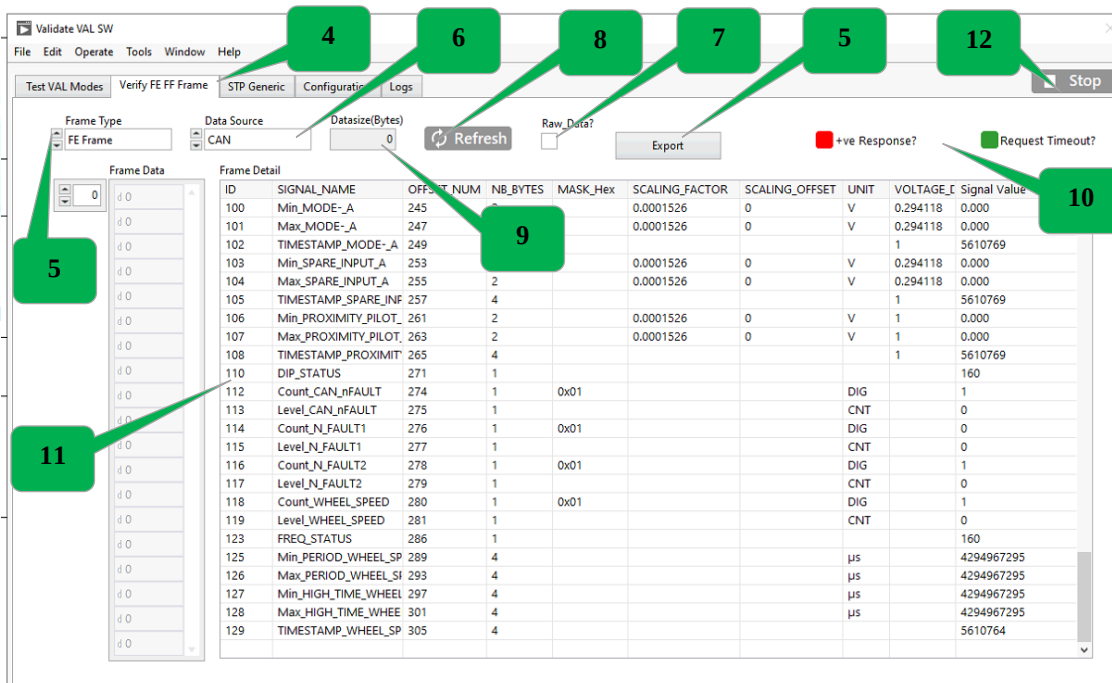

Figure 57: CAN Verify FE FF Frame Read
- 3) Configure the CAN Channel and Refer Fig 57.